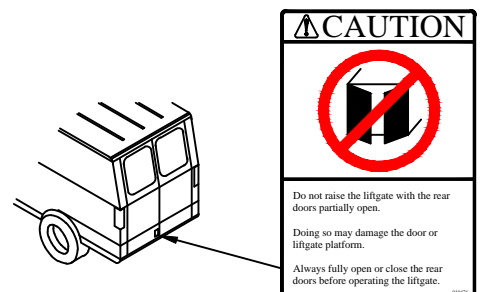

Figure 24: Caution decal location.
4. **Drill** two (2) 13/64" holes in the platform, using the holes in the aluminum cover as a guide.
5. **Install** two (2) 1/4-20 self-tapping screws in the drilled holes.
6. **Install** the lower aluminum cover using four (4) 1/4-20 self-tapping screws.
8. **Secure** the limit switch wire to the support arm and limit switch bracket using two (2) plastic zip ties. This should be done with the platform unfolded.
9. **Adhere** decal (PN 10476) to the exterior bottom right corner of the driver side rear door (Figure 24).